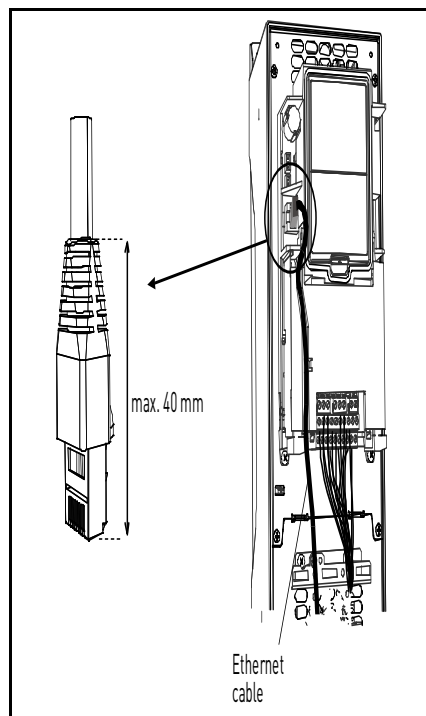

Figure 5.
- 3** Connect the Ethernet cable (see specification on page 7) to its terminal and run the cable through the conduit as shown in Figure 5.